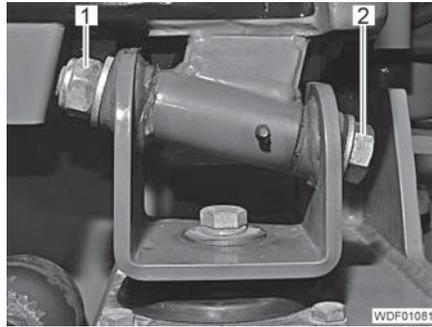

Fig. 344 Cab attachment (front)
- Drive in the hinge pins (Fig. 344,2) with washer from the front.
- Screw the nut (Fig. 344,1) with washer onto the hinge pin and tighten it so that the hinge pin can still be rotated.